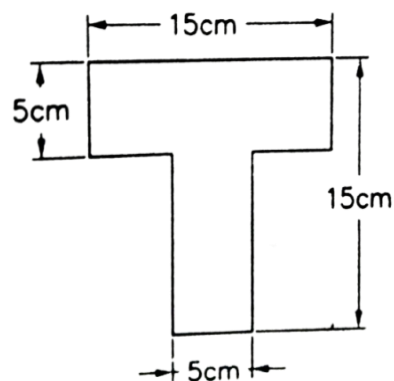

Fig.14(a)
14. A. Locate the centroid of the T – section shown in fig. 14(a). (6)